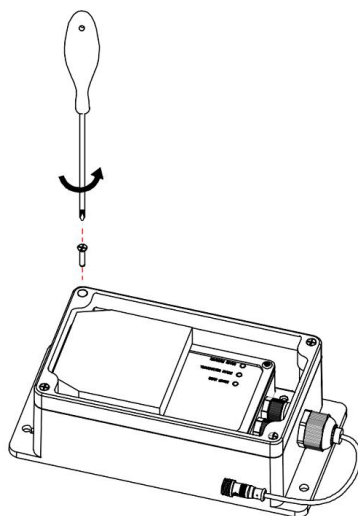

Figure 9
- ① Use a Phillips screwdriver to loosen the screws on the transparent cover, then open the top cover of the clear waterproof enclosure(**Figure 9**).